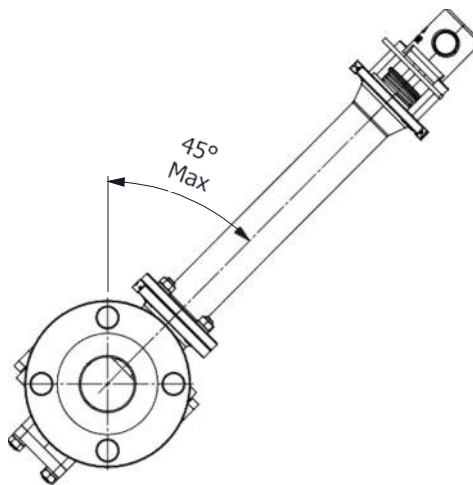

Figure 2. Valve tilting limitations
**2.1.2.** The function of the bonnet of a cryogenic valve is to allow proper heat transfer, and a steep temperature gradient along the bonnet's length between cryogenic temperatures as low as  $-196^{\circ}\text{C}$  /  $-320^{\circ}\text{F}$  and a temperature of around  $-10^{\circ}\text{C}$  /  $14^{\circ}\text{F}$  at the cryogenic ISO top pad. This feature allows the soft parts of the valve stem seal to remain ductile. According to BS 6364 standard a 10 inch (250 mm) cryogenic bonnet shall be installed in the vertical position or inclined up to  $45^{\circ}$  from the vertical axis as shown in figure 2.